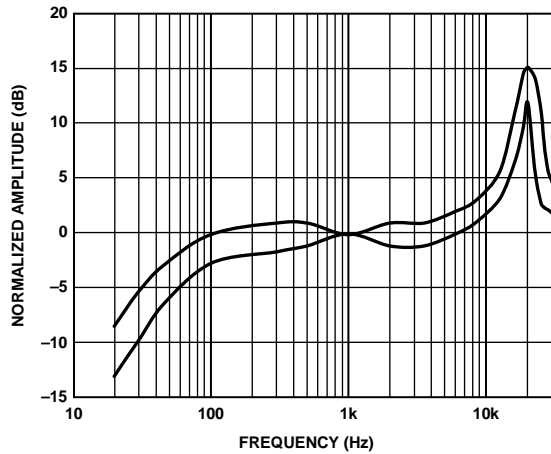

Figure 4. Frequency Response Mask
**Note 1:** See Figure 4 and 5.